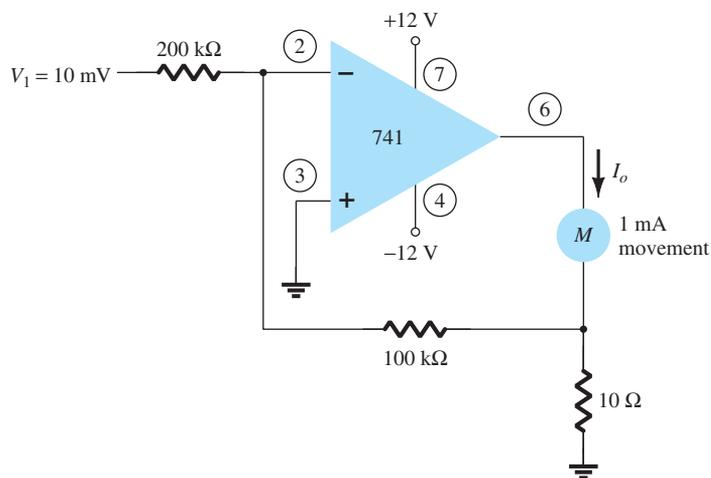

FIG. 11.55
13. Calculate the output current I_o in the circuit of Fig. 11.55.